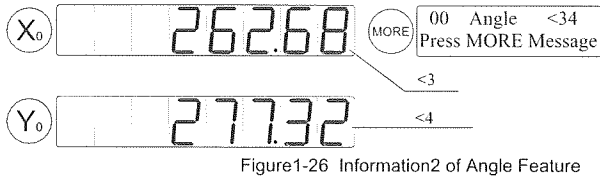

Figure1-26 Information2 of Angle Feature
- 2) Press , and the information is displayed as in figure1-26.